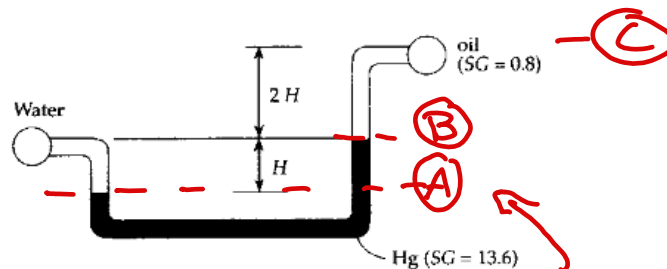

Figure 1:
1. Find the difference in pressure between the water and oil in Figure 1 if $H = 25$ cm.